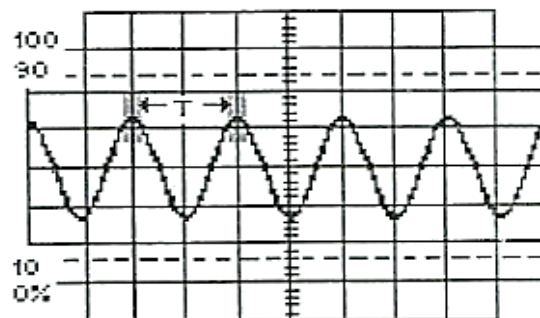

Figure 5-15.
34. Measure and record the period (T) between peaks of the SSB waveform at the IF FILTER output. Each vertical division line is 1 μ s. (Refer to Figure 5-15.)